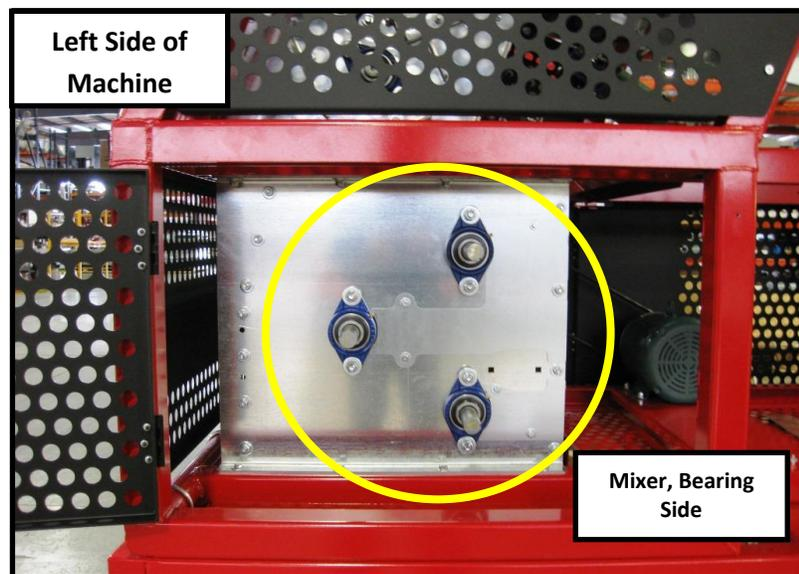

Figure 4
9. Locate mixer roller shafts, bearing side. These are the three (3) lower-most shafts. **See Figure 4.**